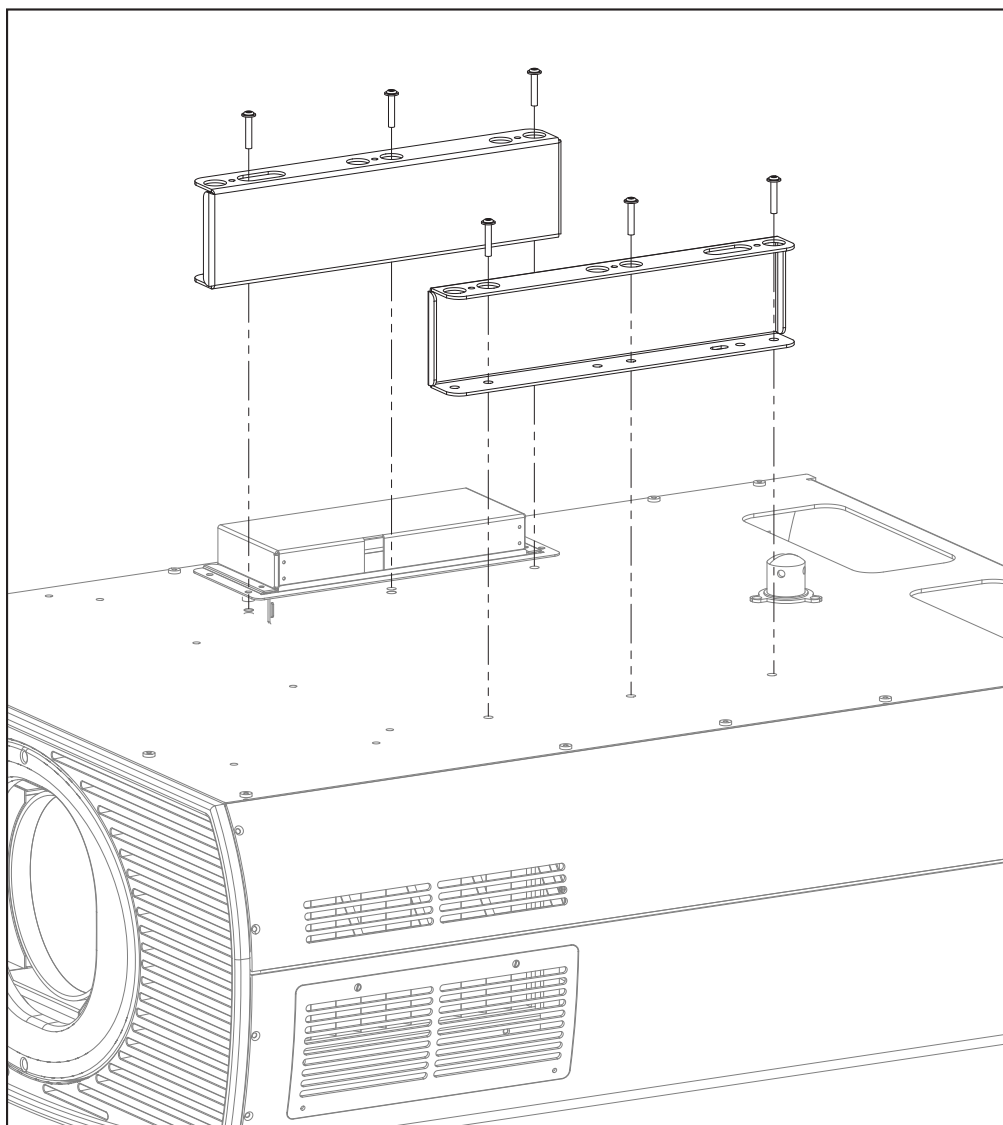

**Figure 3-7. Vision 120 with Ceiling Mount Adapters/Projector Stands**
Using six (6) each of the supplied, M6 x 12mm Pan-Head Phillips screws (item #2), attach the AutoScope Ceiling Mount Adapters/Projector Stands (items #3 and #4) to the projector as shown in Figure 3-7.
Use a Vidikron DVI Dual-Link (DVI-DL) cable to connect the output of the VHD Controller to the input of the Vision 120; see Figure 3-7.